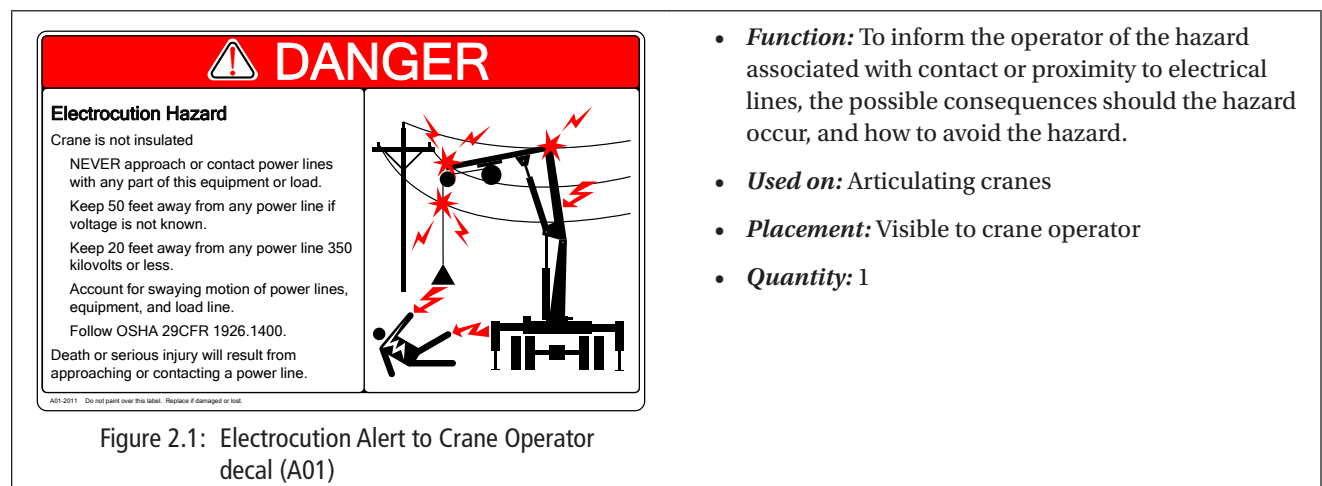

Figure 2.1: Electrocution Alert to Crane Operator decal (A01)
- A high-voltage minimum-clearance sign must be visible to the operator while at the operator's station (Figure 2.1); this decal indicates the minimum 10 ft. clearance for lines under 50 kV as well as the minimum for higher voltages (as specified in OSHA 1926.1407 through 1926.1411).